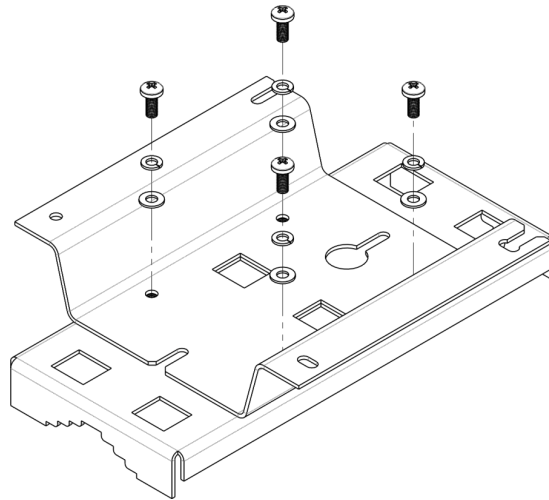

Figure 7 – Bracket for attaching to mast/pole
1.1) Connect bracket, that will be attached to a mast/pole, to bracket, that will be attached to the device, as shown in Figure 7.